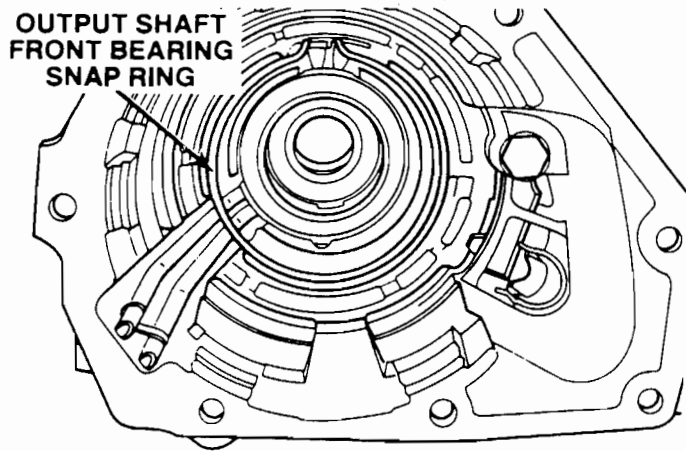
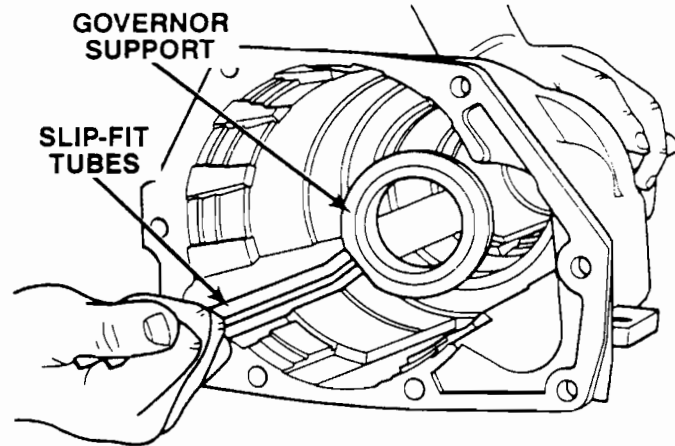

FIGURE 15
FIGURE 16
7. Remove the output shaft front bearing snap ring (Figure 15), then remove the governor support snap ring. Take the governor support with slip-fit tubes out of the case (Figure 16).